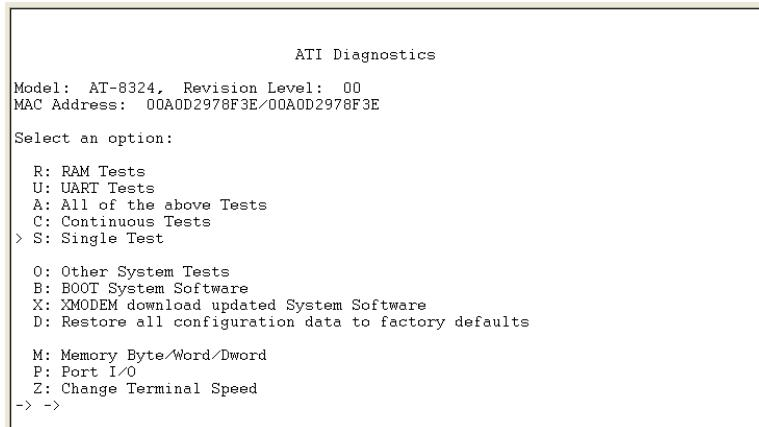

Figure 2 ATI Diagnostics Menu
3. Immediately hit any key to run the system diagnostics. The ATI Diagnostics menu in Figure 2 is displayed.